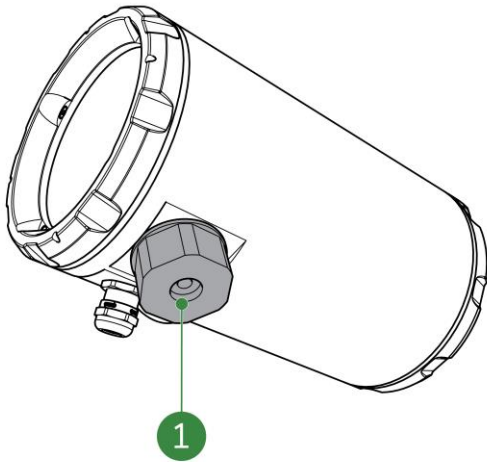

Figure 8-3: Split cable gland for ethernet cable
2. Remove the ethernet cable (Figure 8-3, pos. 1).